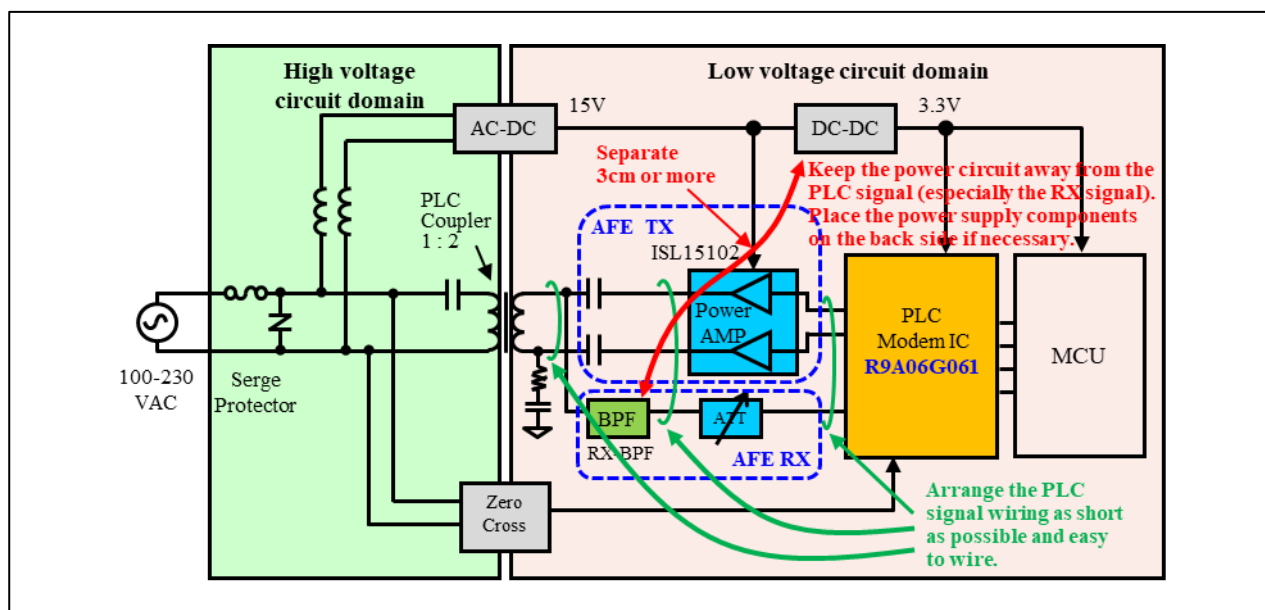

Figure 2-4 Parts Layout for the Low Voltage Circuit Domain
- Figure 2-4 shows cautions on PCB layout for the low voltage circuit domain.